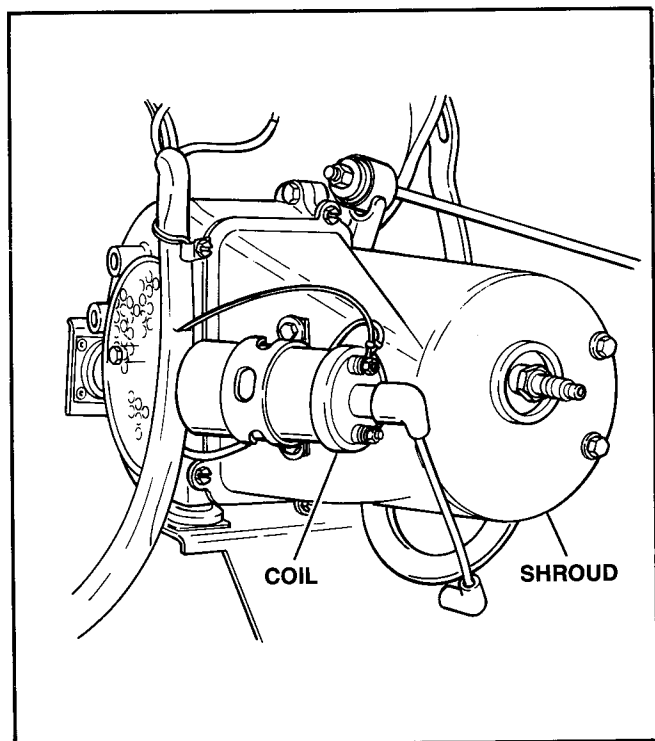

Figure 46 – Shroud Removal
d. See Figure 46. Remove the top shroud bolts and washers.
e. See Figure 46. Remove coil. Remove the shroud screws and shroud.